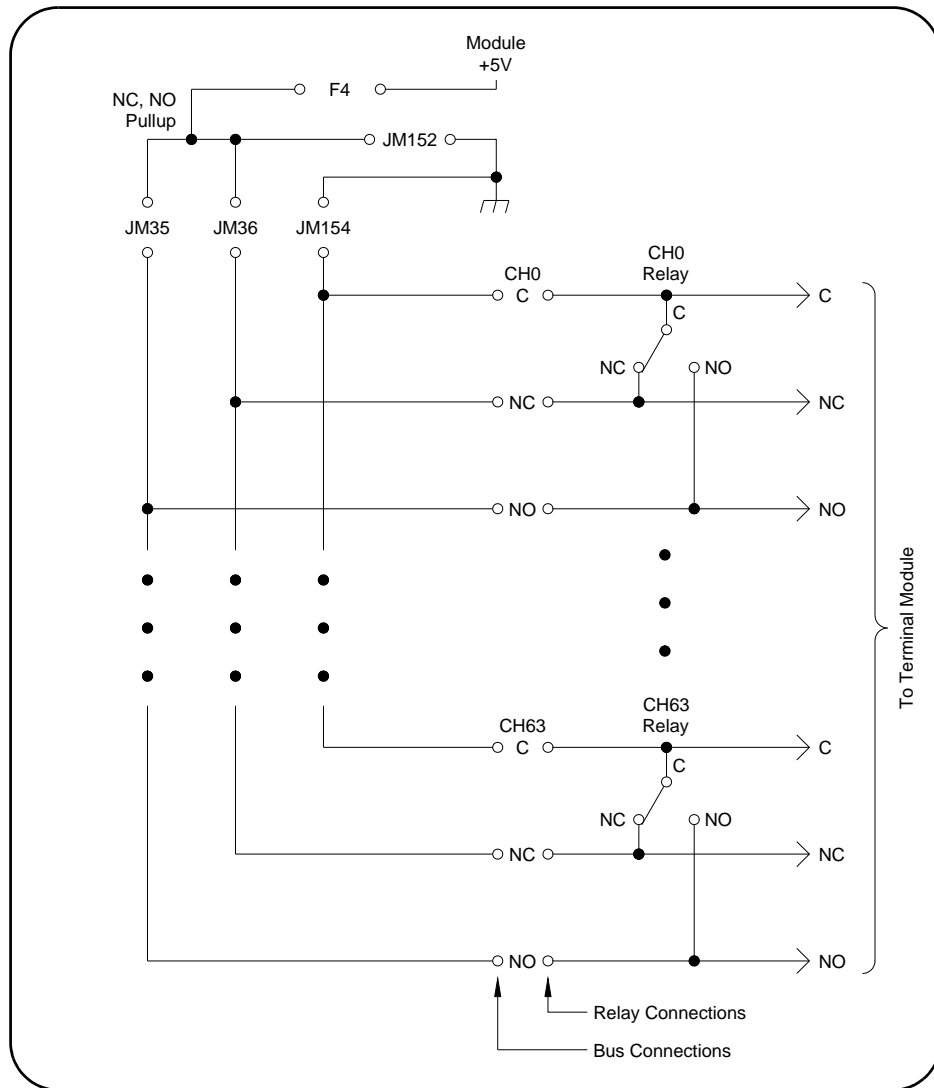

Figure 1-8. Internal Bus Structure
The E1442A 64-Channel Form C Switch Module contains internal buses to which you can connect any channel contact. Figure 1-8 shows channels 0 and 63 and the internal bus structure. There is a bus for the common (C), the normally closed (NC), and the normally open (NO) contacts.